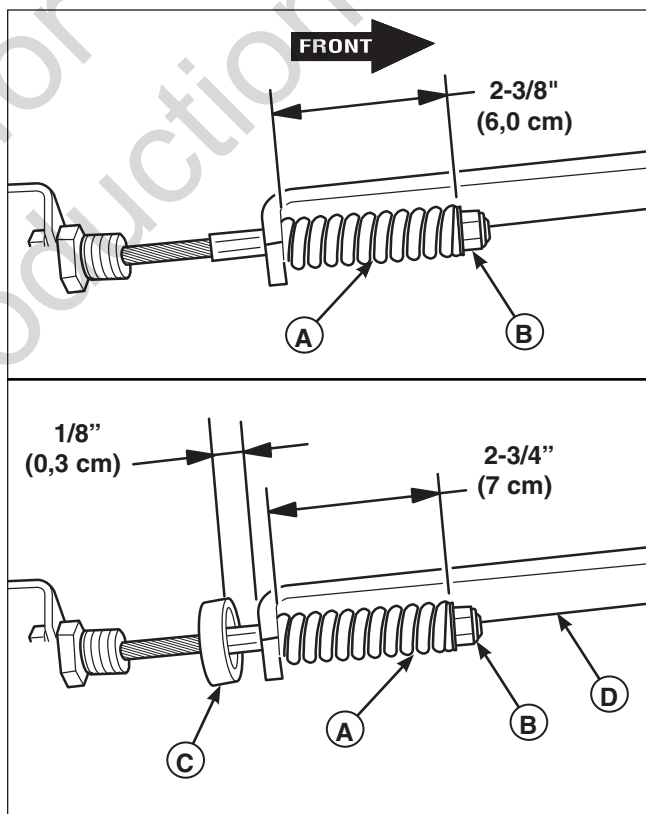

Figure 35. Parking Brake Adjustment
2. Locate the brake spring (A, Figure 35).